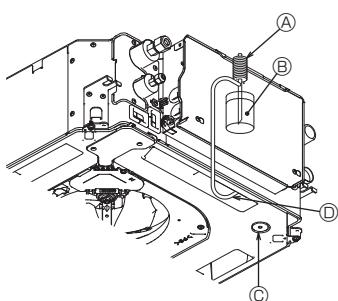

Fig. 6-9
- Point the remote controller towards the indoor unit receiver while following steps ③ to ⑧.
6.3. Check of drainage (Fig. 6-9)